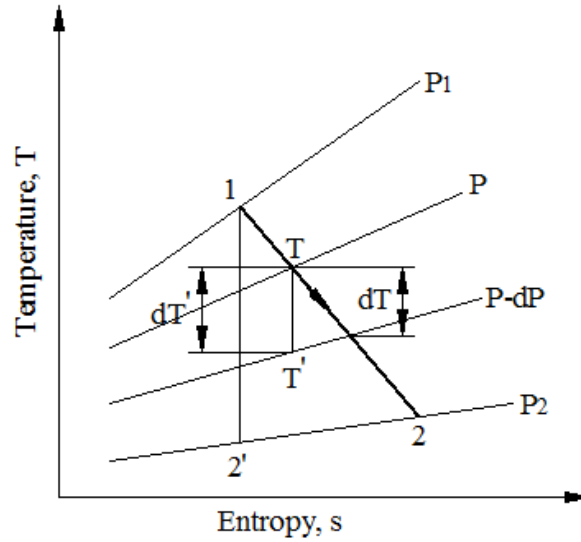

Fig. 2.9 Infinitesimal stage of a turbine
Consider a single stage turbine having its stage efficiency  $\eta_{st}$ , operates between the pressures  $p_1$  and  $p_2$ , and an infinitesimal stage of efficiency  $\eta_p$ , working between the pressures  $p$  and  $p-dp$  as shown in figure 2.9.
**Answer:** From the T-s diagram shown in figure 2.9, the turbine stage efficiency is given by,